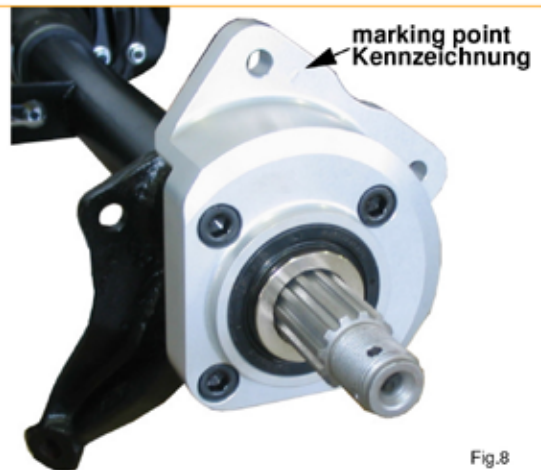

Fig.8
- The caliper needs to be installed in the 2-o'clock position on the left and the 10-o'clock position on the right, as shown in picture Fig.8.
- Please note that the brackets are marked L and R as shown in picture Fig.8.